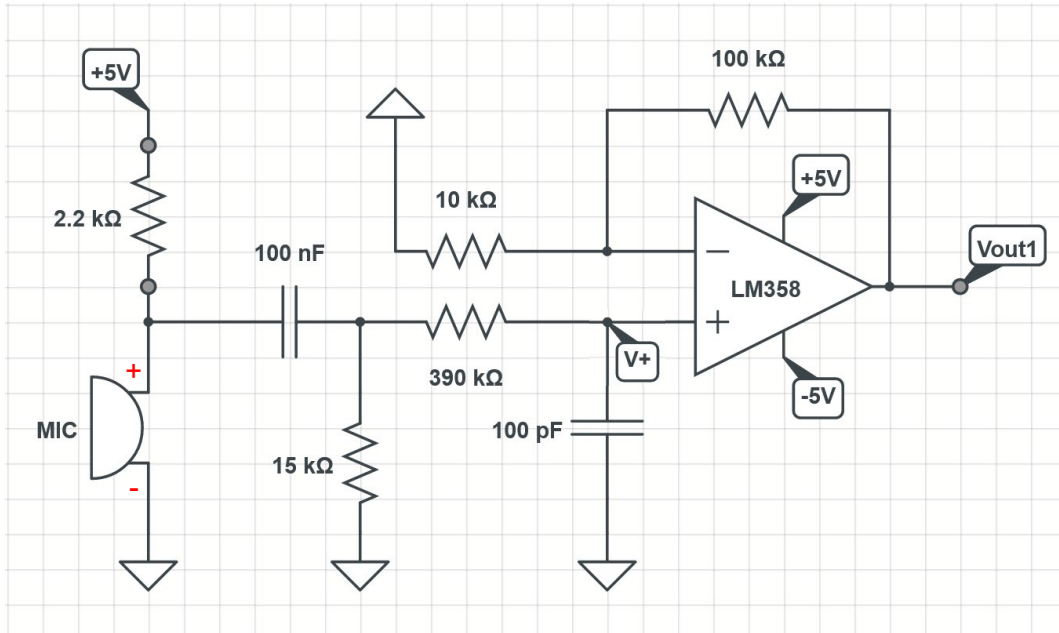

Figure 7. Microphone with the Low Pass Filter + High Pass Filter + Amplifier
1. Wire the circuit on your breadboard as per the schematic given in Figure 7.
5. Connect "CHA" to 'V+' and "CHB" to "Vout1" in Figure 7. Select a Timebase of 100 ms/Div and a zoom of 1:2. The combination gives a Timebase of 200ms/Div. Adjust the voltage scale according to each channel's voltage range.